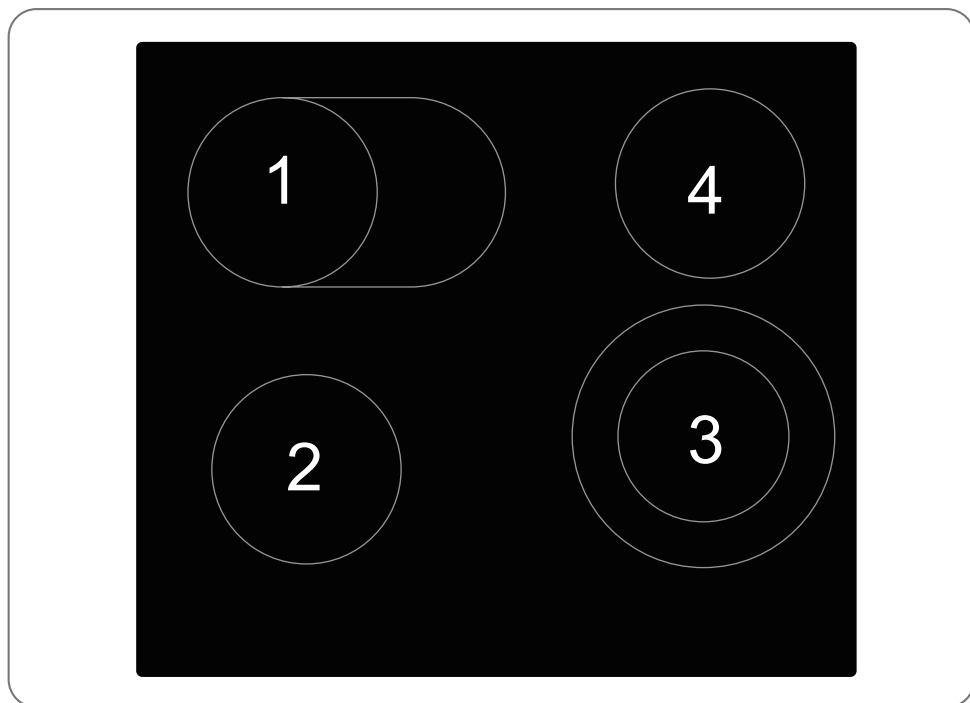

Fig. 4.4
**NOTE:** The zones available for the double cooking area function are 1 and 3, see (Fig. 4.4).